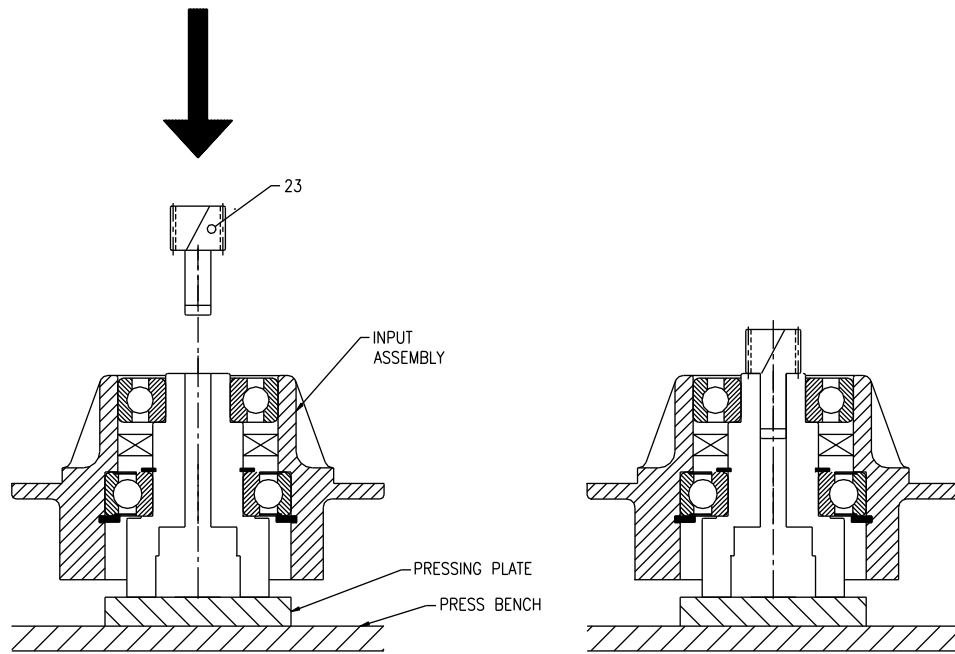

Figure 3
CAUTION: The pressing plate must be located under the input shaft as shown in Figure 3 to ensure the press force is through the shaft and not the housing or bearings. If the press force is taken through the housing or bearings, the input assembly will be damaged resulting in premature failure of the unit.
3. Fit primary pinion (23) to input adapter shaft as shown, press pinion fully into plug-in shaft.
4. For pinions where the gear is larger than the shank OD (Figure 3), press to the pinion shank shoulder and verify that the pinion is fully seated by checking the Dimension A per Table 1.